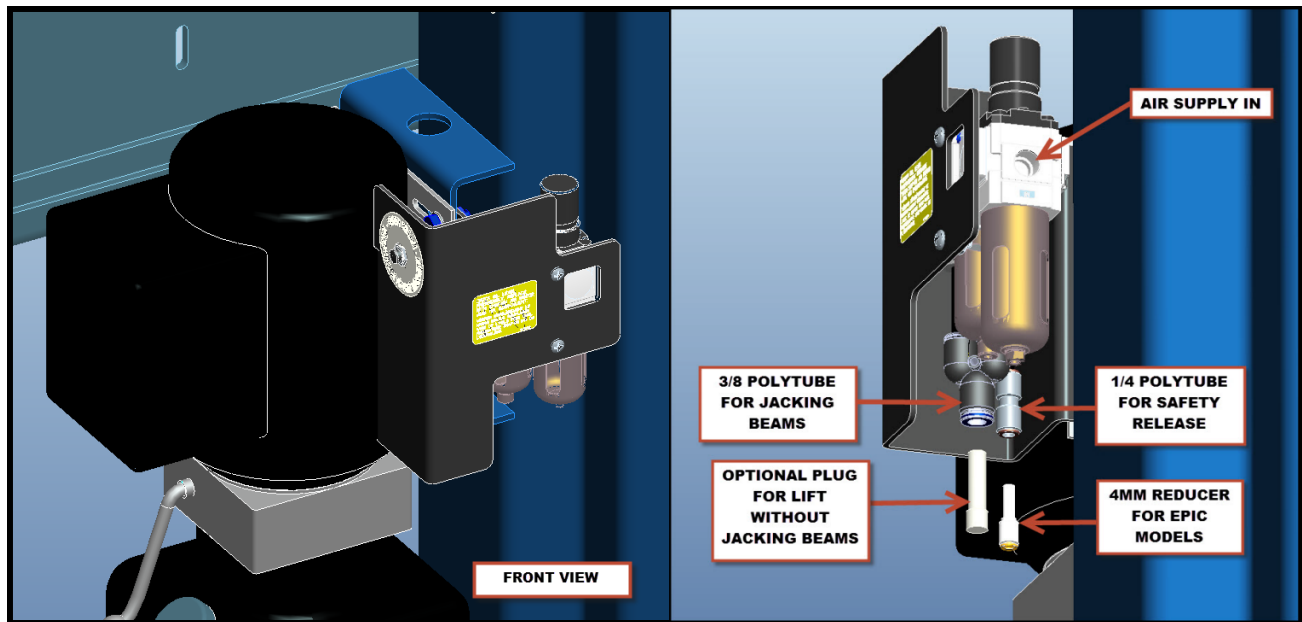

Figure 23. Air Connections
5. Connect the opposite end of the 3/8" polytube to the Air Valve and Filter assembly on the front left tower. **See Figure 23.**